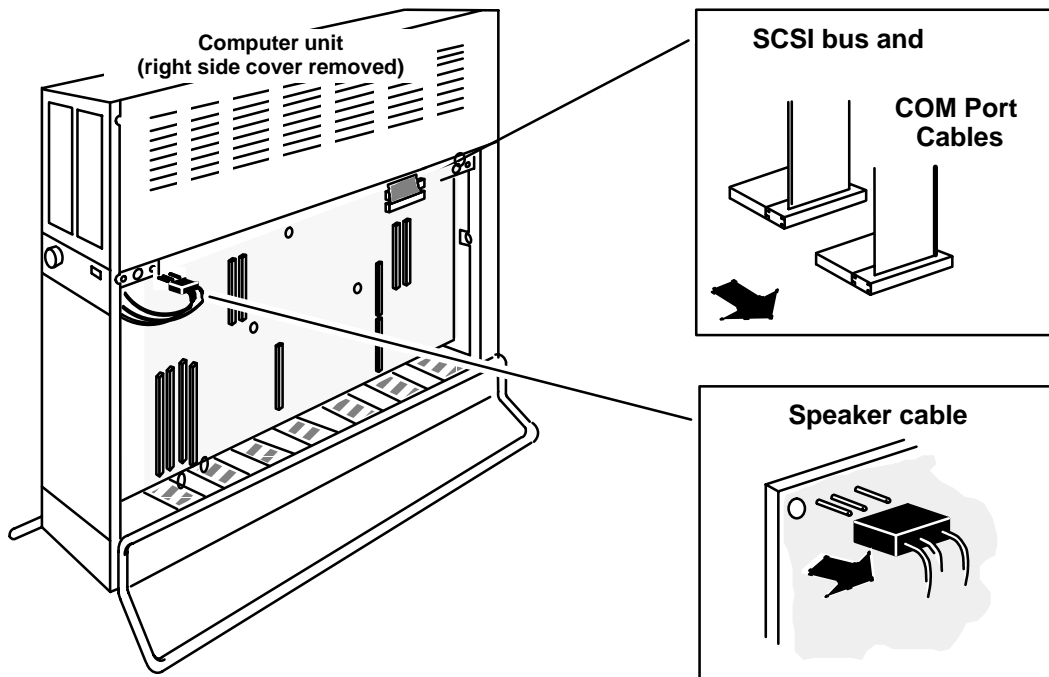

Figure 10-3 Unplugging Cables from the System Board
6. Unplug the speaker, COM port, and SCSI bus cables from the system board as shown in Figure 10-3.